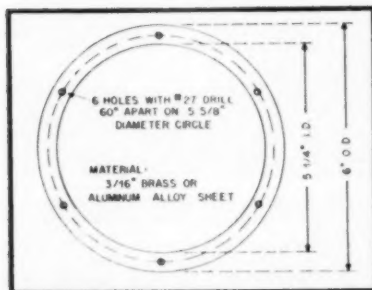

Fig. 4. Details of spider clamping ring.
- 1 spider clamping ring, made as per Fig. 4